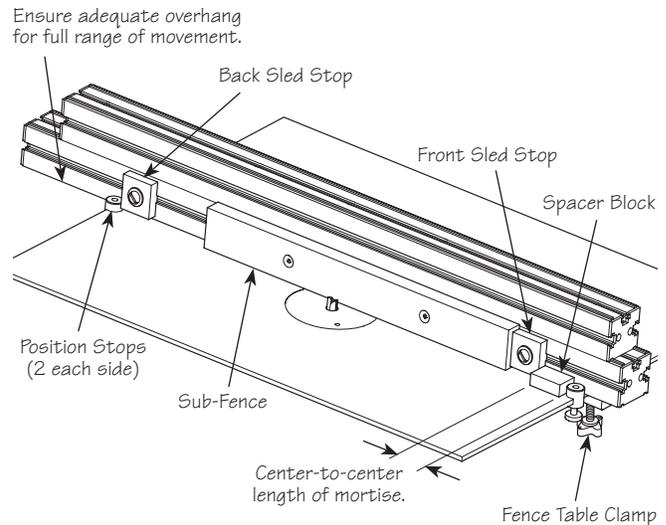

Figure 12: Initial mortising set-up.
6. Slide the fence so that the rear overhangs the table an adequate amount to accommodate the movement of the fence (minimally the overall length of the mortise plus 2" (50mm), see **Figure 12**). Temporarily clamp the fence to the table in this position. Place a spacer block on the table and against the fence, so that it contacts the front position stop. Loosen the front sled stop and slide it forward so that the spacer is sandwiched between it and the position stop. Lock the front sled stop in this location.